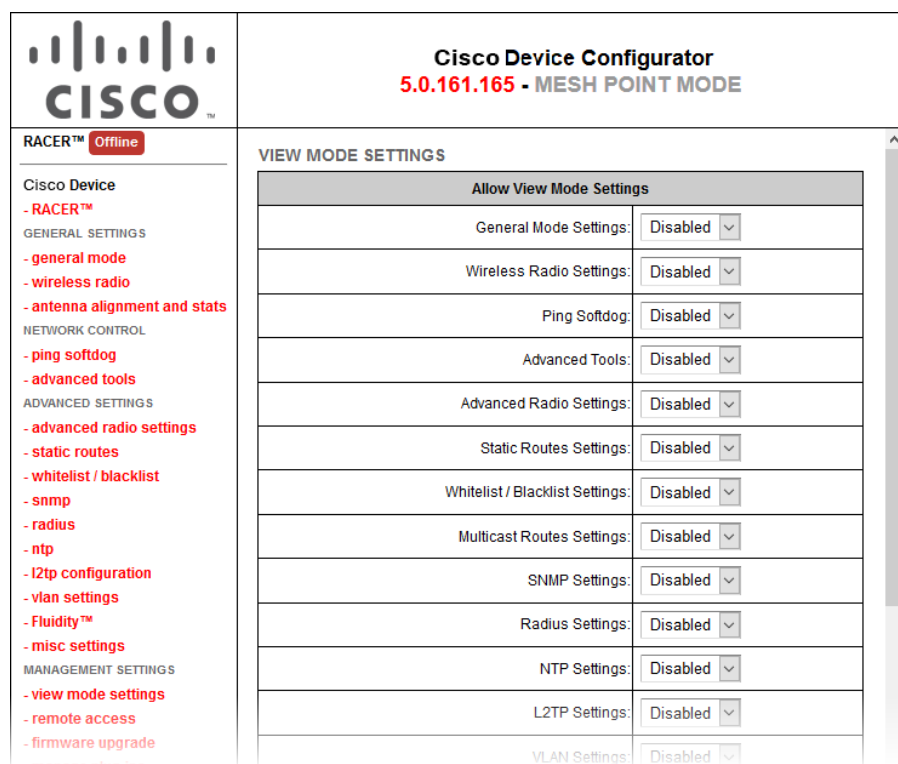

Figure 52. Configurator GUI (VIEW MODE SETTINGS dialog)
2. Click the **-view mode settings** link under **MANAGEMENT SETTINGS** in the left-hand settings menu (Figure 52 \(page 124\)).